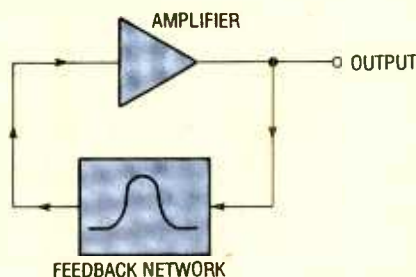

Fig. 1. A sinewave oscillator can be broken down into two key sections: an amplifier and a frequency sensitive feedback network.
**Sinewave Oscillators.** Figure 1 shows the block diagram of the most basic sinewave oscillator. The type of design produces a sinewave at a particular frequency. The top section is an amplifier and the bottom is a frequency-dependent attenuation and phase-shift network. The amplifier is like any other amplifier; its gain produces a copy of the input at the output but with a larger amplitude.